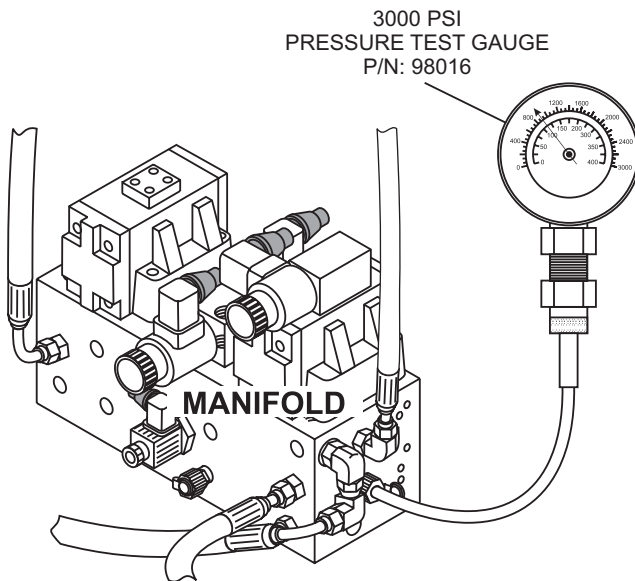

Figure 49. Accumulator Circuit Pressure Test Gauge
1. Attach a **3000 PSI test gauge** (Mayco P/N 98016) to port **G2** of the main manifold block (Figure 49).